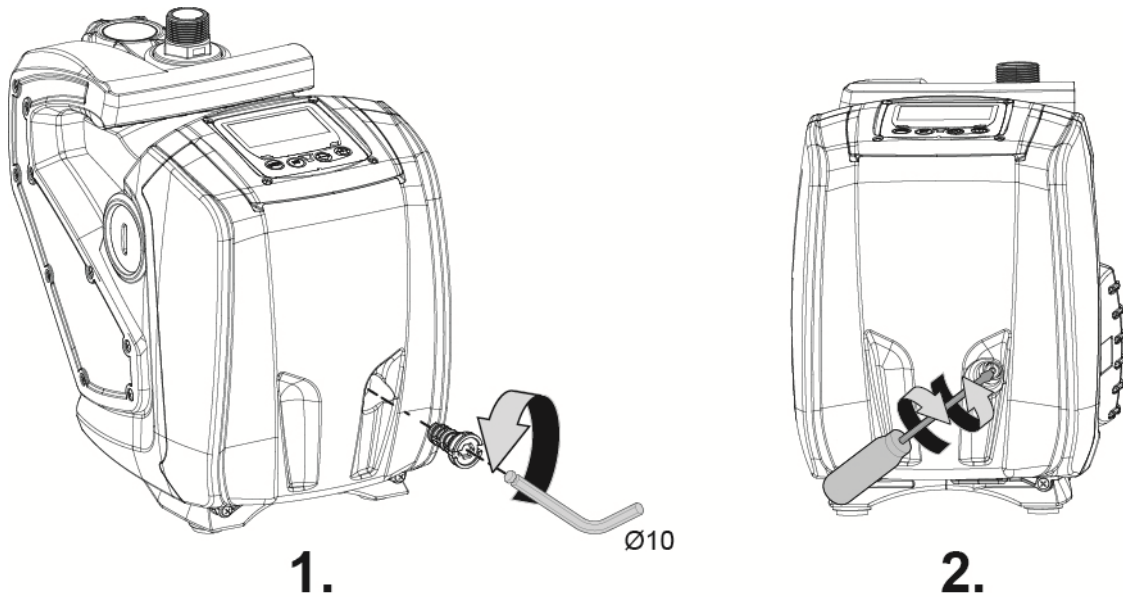

Figure 9
1. using a 10mm hexagonal key, remove the motor shaft access cap (fig.9);
2. insert a straight tip screwdriver in the groove on the motor shaft and manoeuvre, turning in 2 directions (fig. 9);